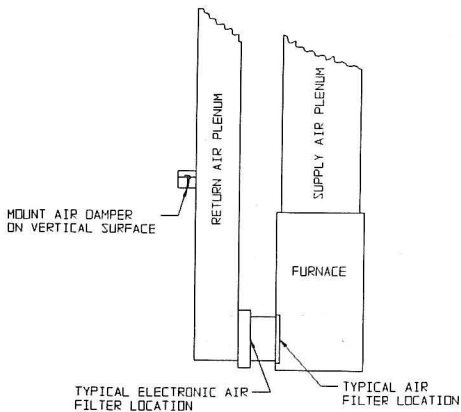

Figure 3
- 2) After allowing template to dry, drill (4) 1/8 inch diameter holes at the location indicated on the template. Also, drill 4 or 5 holes along the cutting line of the 6 1/8 inch diameter hole indicated on the template to allow for a starting hole for cutting. Then cut hole with metal shears.
- 3) Mount the metering air damper using supplied sheet metal screw.(SEE FIGURE 3)